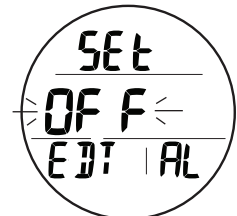

Fig. 141 - SET EDT ALARM
**Set EDT Alarm**, information includes (Fig. 141):